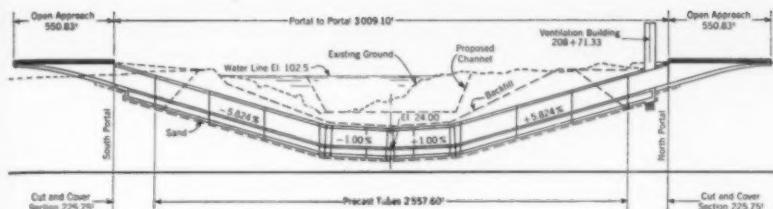

FIG. 2. Main section of Baytown Tunnel is being built by trench and precast method. Cut-and-cover method is used for 225.75-ft section at each end.
**FIG. 2. THREE STEPS** in development of simple cableway carriage are: (a) simple English, (b) modified English, and (c) American standard with button line for cable carriers.